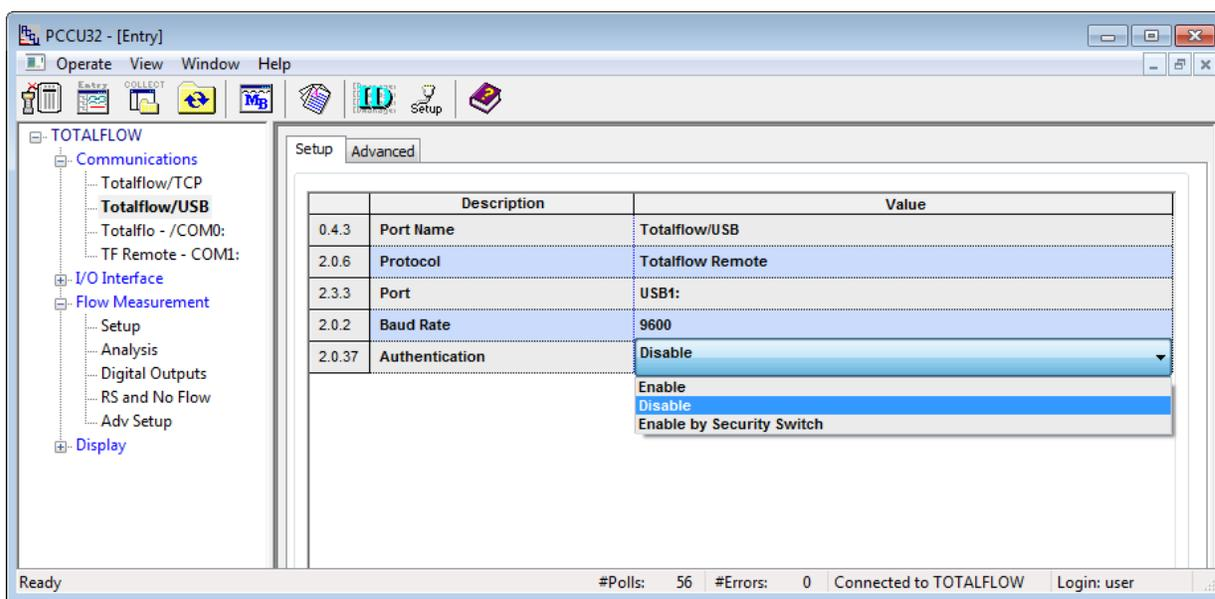

Figure 52: Communication port authentication - Entry mode
2. Set the Authentication value to **Disabled**, **Enabled** or **Enable by Security Switch** (Figure 52). See Table 17 for additional information about the authentication values.